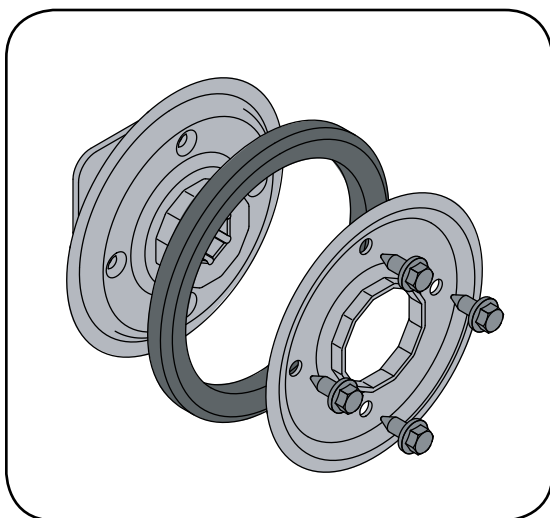

Figure 6-16
4. Remove the four screws which secure the friction wheel's side plates together, Figure 6-16.